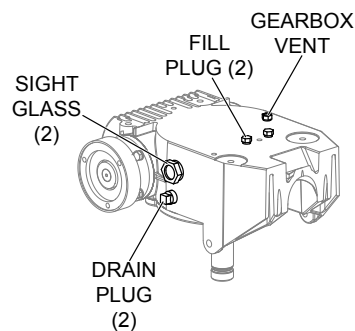

Figure 7. Gearbox Oil Plugs/Sight Glass
1. Check the gearbox oil level in both gearboxes by removing the level plug and ensuring that the oil is at the correct level. See Figure 7.